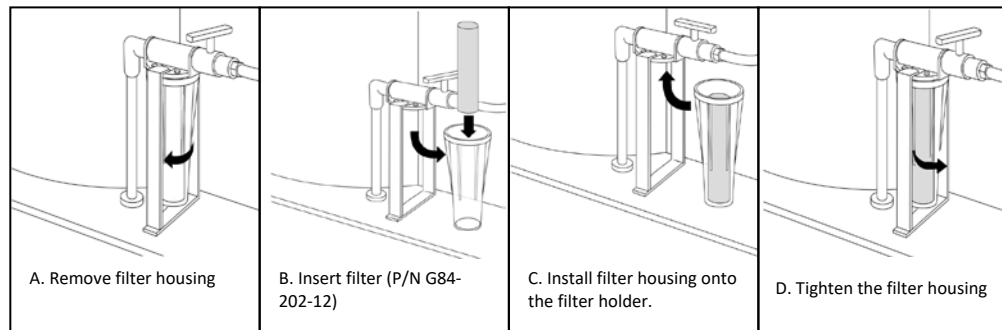

Figure 21
11. Remove Filter Housing and drain all residual water from the Housing. Install new Filter and tighten Filter Housing into place (Figure 21).